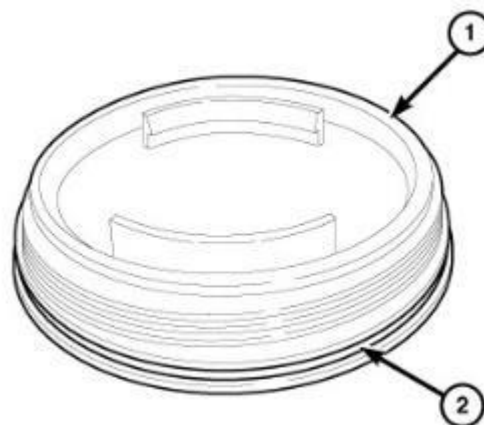

Figure 60 – Filter Cover O-ring
105. Lubricate the **NEW** O-ring seal (2) on filter covers (1) with clean diesel (Figure 60).